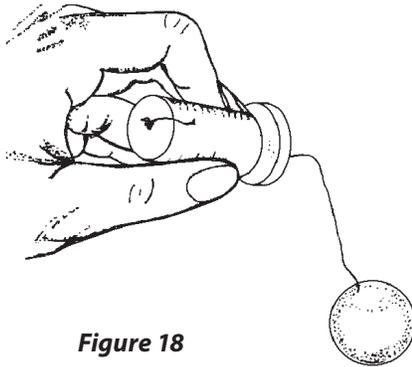

Figure 18
3. Using a push pin, thumb tack, or other sharp point, enlarge the small hole in the closed end of the plastic insert. Thread about 1/2" of the string through the plastic insert (Figure 18). Use a spot of glue to secure the thread and seal the hole. Be sure the hole is completely sealed by the glue.